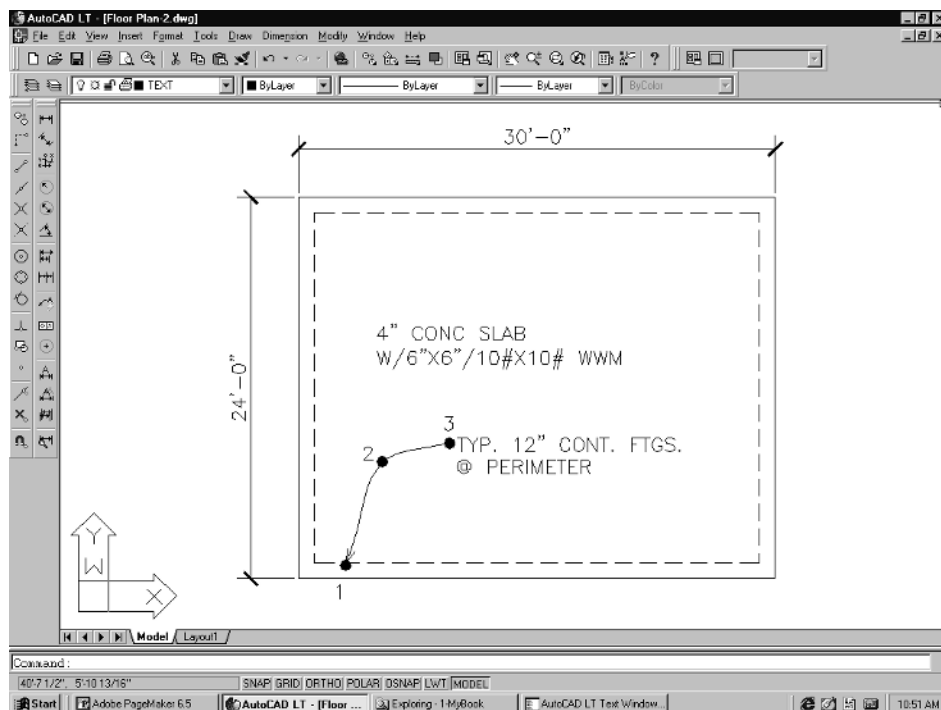

Figure 3-14
15. Pick **OK** when done. The prompt will go back to *Specify first leader point, or [Settings]<Settings>*. You have three picks. The first pick is where you want the arrowhead to start. The second pick would be where you want the bend in the leader to be. And the last pick should be the end of the leader line, at the label. See Figure 3-14.